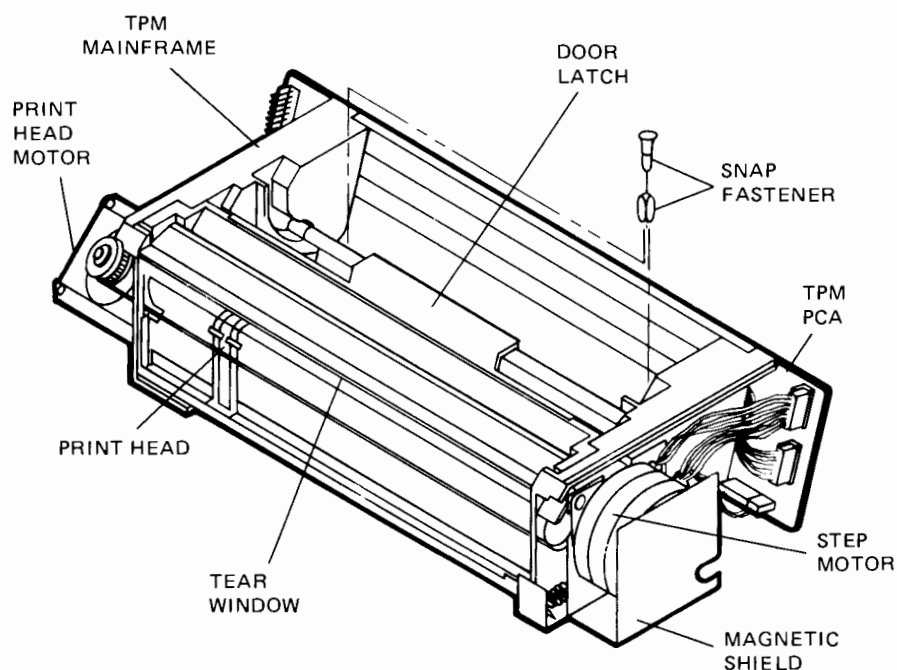

Figure 7-14. TPM Removal
2. Use an IC removal tool and unsnap the two snap fasteners securing TPM to mainframe (see figure 7-14).
3. Use an IC removal tool and unsnap the two snap fasteners securing TPM to mainframe (see figure 7-14).